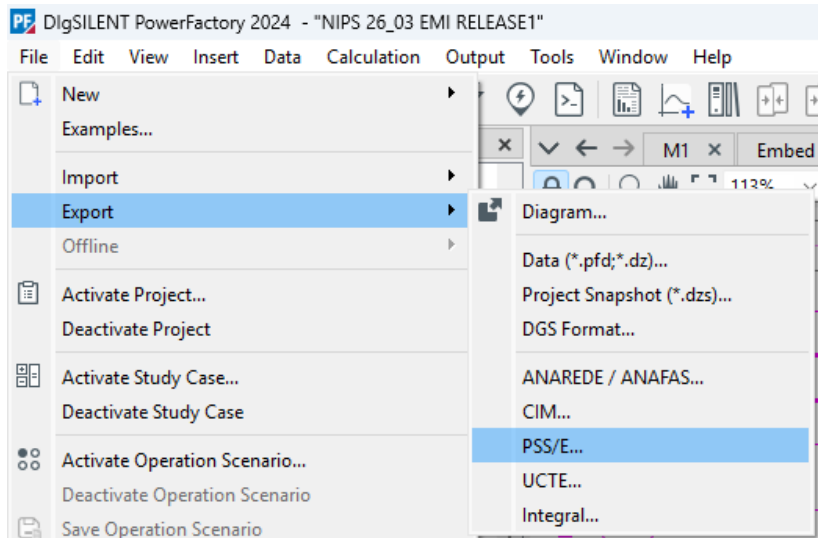

Figure 4: PSSE Export
2. Select the PSSE export option shown in Figure 4 below and choose PSSE Version **V33**.